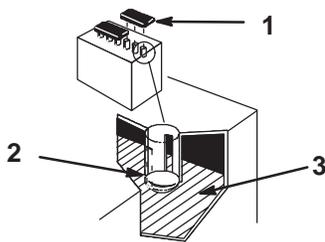

Figure 40
1. Open covers to see into the cells. The electrolyte must be up to the lower part of the tube (Fig. 40).
**IMPORTANT: Do not allow the electrolyte to get below the plates. (Fig. 40).**
2. Lift off the filler caps (Fig. 40).
3. Slowly pour distilled water into each battery cell until the level is up to the lower part of the tube (Fig. 40).